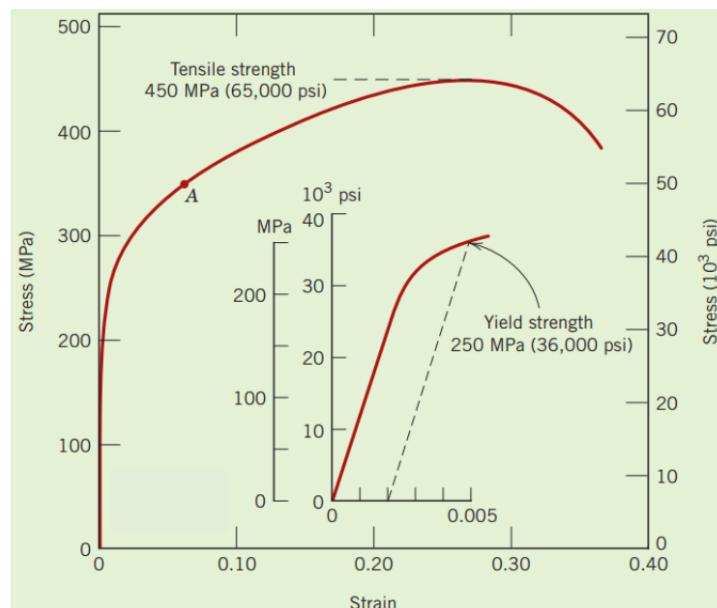

Figure 1 The stress-strain curve of a brass alloy. [1]
1.2 Consider the brass alloy the stress-strain behavior of which is shown in Figure 1. A cylindrical specimen of this alloy 14 mm in diameter and 173 mm long is to be pulled in tension. Calculate the force necessary to cause a 0.0087 mm reduction in diameter. Assume a value of 0.33 for Poisson's ratio. (Please give the detailed calculation process.)
According to the Figure 1., yield strength is $\sigma_y = 250 \text{ MPa}$ and $\epsilon_p = 0.002$